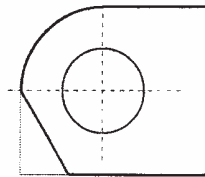

Figure 3
- 7 (a) Figure 3 shows an elevation of a template.